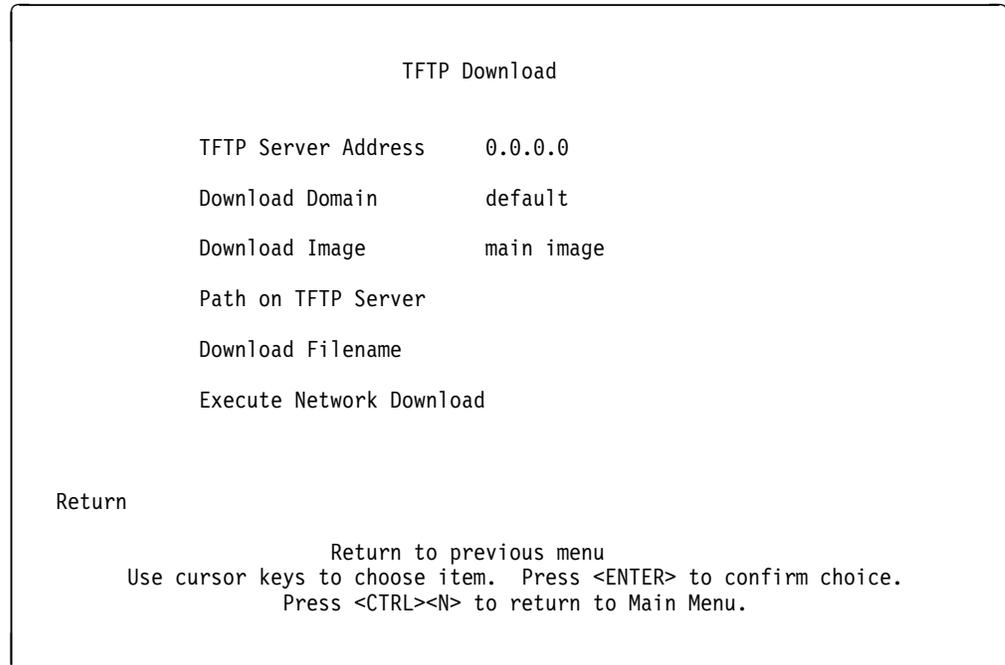

Figure 4-3. TFTP Download Panel
- Step 13.** When the TFTP Download panel appears (see Figure 4-3 on page 4-5), fill in the fields and then select **Execute Network Download**.